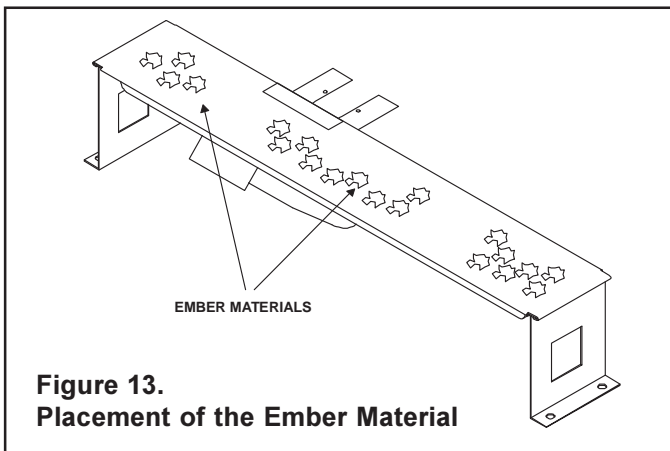

Figure 13.
- Place dime size pieces of ember material about 1/2 inch apart near port holes in burner top. Do NOT press embers into burner ports. Cover the top of the burner with a single layer of ember material. For best performance do NOT place embers on the ports at the rear of the burner (see Figure 13).